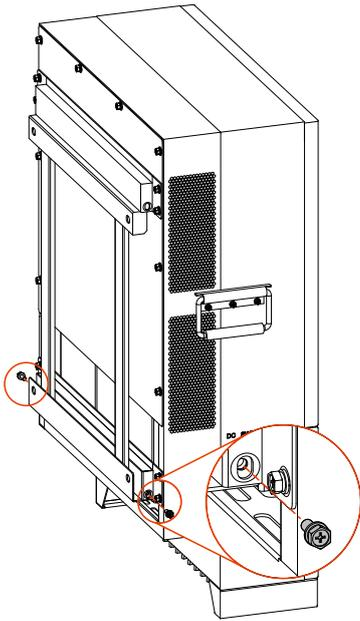

Figure3-8 Fasten the inverter
Step 6 As shown in Figure3-8, fasten the inverter to the installation holder in the two sides of the inverter by equipped bolts M6*16.